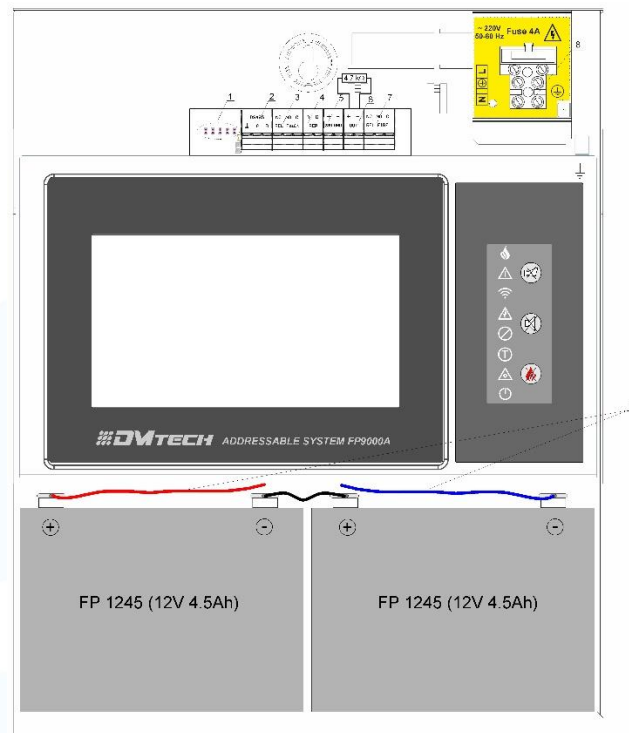
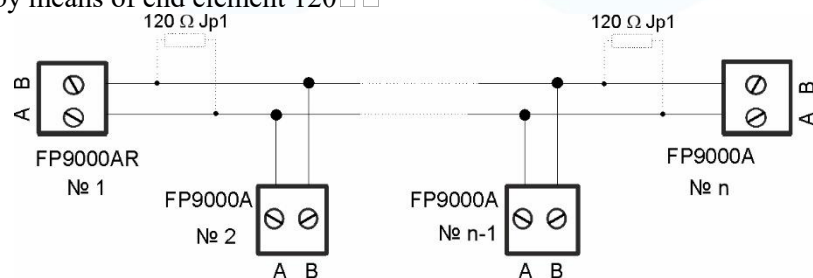

Fig. 4
Fig. 5
**5.4. Terminal order on the panel** - In fig. 4 with positions 1-8 show the main connections of the repeater with the periphery controlled by it.
**5.4.1. Main functions of the panel** - a brief description of the main positions in fig.4
- pos. 1 – light indication of current status
- pos. 2 – RS 485 (E, A, B) - Used to connect the repeater to centrals. Holds up to 16 panels. The connection direction A-A must be observed; B-B; Shown in Fig.5.
- pos. 3 – Pins NC (Normally Closed Contact), NO (Normally Open Contact), C on Fault Relay
- pos. 4 – A B (REP) – For connection between two repeaters
- pos. 5 – Power supply +/- 28V
- pos. 6 – Controllable output. Controlled by panel settings, line integrity monitors. A 4.7k $\Omega$  terminal element is required
- pos. 7 – Terminals NC (normally closed contact), NO (normally open contact), C relay Fire – activated in "Fire Alarm" mode Terminals NC (normally closed contact), NO (normally open contact), C